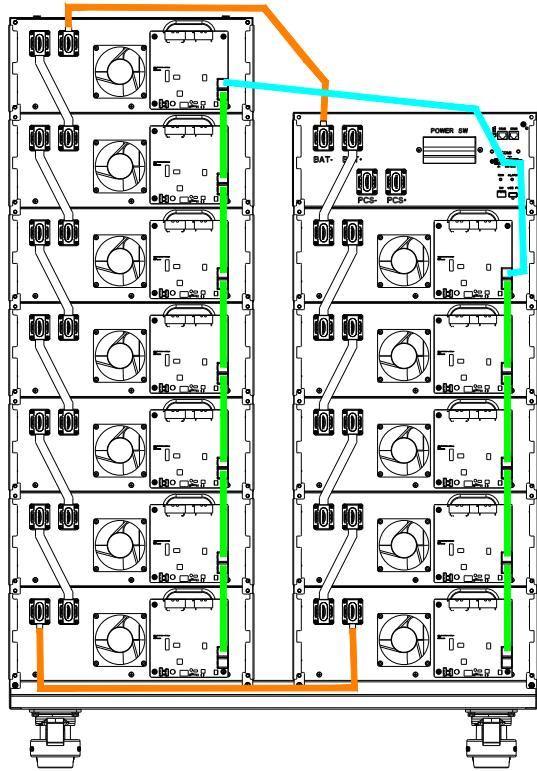

Figure-14 Battery cluster communication cable wiring diagram
- 2) According to the wiring position shown in Figure-14, each cluster is connected to the battery module communication line in the S-shape from the lower right corner.